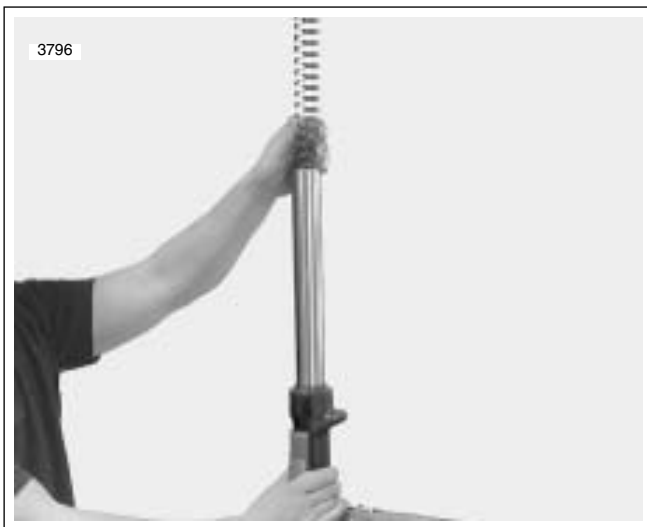

Figure 2-84. Install Rebound Spring
7. See Figure 2-84. Install spring onto damper assembly.